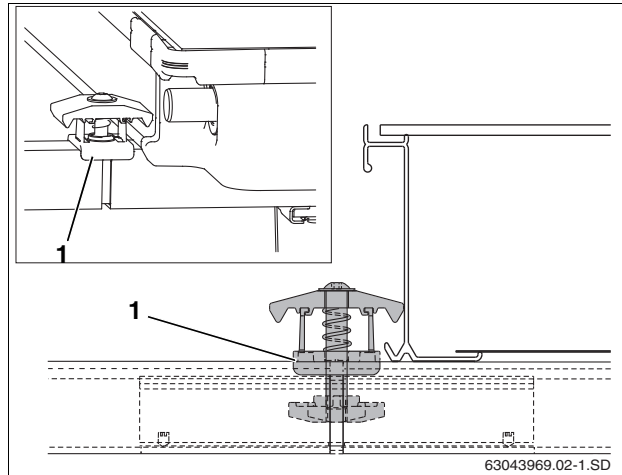

Fig. 47 Installing a double-sided collector clamp
- ▶ Insert the double-sided collector clamp, nut first, into the opening made by the profile rail and connector so that the plastic spacer (Fig. 47, [1]) covers the profile rail.